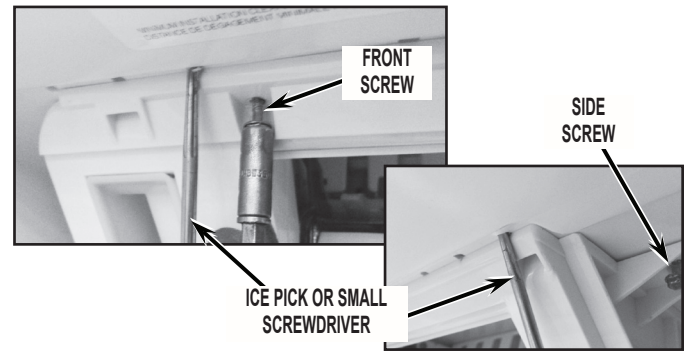

FIGURE 21
24. Reinstall ice box using (2) two screws removed in step 13. You will need to exert considerable force when installing the ice box in order to line up the screw holes.
**IMPORTANT:** Drive front and side ice maker screws while holding ice pick or small screwdriver in front holes and pushing back on ice maker with it.  $\frac{3}{4}$  of the hole should be showing after screws are driven or ice maker is too far forward. See *Figure 21*.